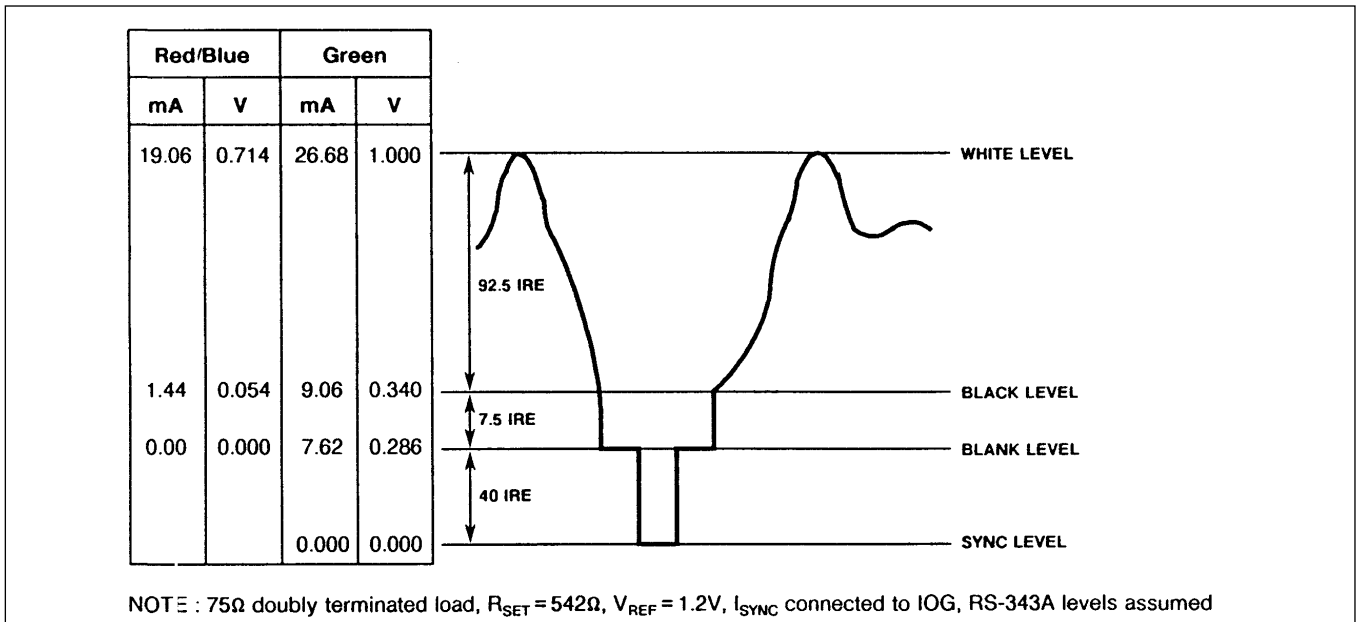

Fig.3 Composite video output waveform
$\overline{\text{SYNC}}$ and $\overline{\text{BLANK}}$ are latched on the rising edge of the clock to maintain synchronisation with the colour data. These inputs add appropriately weighted currents to the analog outputs, producing the specific output levels required for video applications as shown in Fig. 3. Table 1 details how the $\overline{\text{SYNC}}$, $\overline{\text{BLANK}}$, and REFWHITE inputs modify the output levels.
FS ADJUST	<p>Full scale adjust control. A resistor (R_{SET}) connected between this pin and AGND controls the magnitude of the full video signal (Fig. 3). The current flowing in the R_{SET} resistor is equal to 32 LSBs. note that the IRE relationships in Fig. 3 are maintained, regardless of the full scale output current. The relationship between R_{SET} and full scale current on IOG (assuming I_{SYNC} is connected to IOG) is:</p> $\text{IOG (mA)} = 12082 \times \frac{V_{\text{REF}} \text{ (V)}}{R_{\text{SET}} \text{ (}\Omega\text{)}} \cong 387 \text{ LSBs}$ <p>The full scale output current on IOR, IOB (mA) for a given R_{SET} is defined as:</p> $\text{IOR, IOB (mA)} = 8624 \times \frac{V_{\text{REF}} \text{ (V)}}{R_{\text{SET}} \text{ (}\Omega\text{)}} \cong 276 \text{ LSBs}$